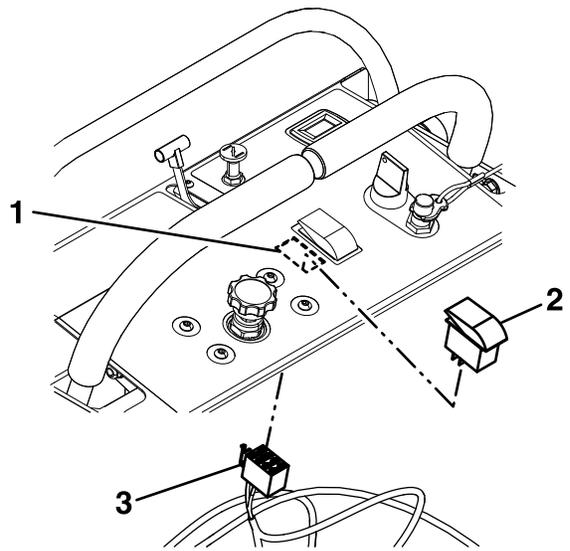

**Figure 3**
4. Assemble the tool holder to the spray wand tray using #10–24 x 1/2 inch screw and #10-24 inch nyloc flanged nut (see Figure 3). Install the spray wand tray to the right side of the tower using two 5/16–18 x 3/4 inch screws and two 5/16-18 inch nyloc flanged nuts.